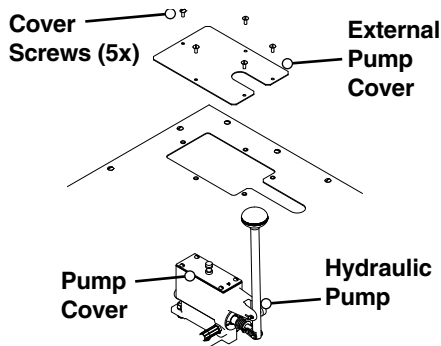

Fig. 3: TS-1/TS-3 Hydraulic Pump Access
3. **TS-1/TS-3:** Remove the five screws that secure the external pump cover to the top (Figure 3 on page 8). Lift the cover off and look for oil leaks. Report any leaks found to Gilson. If none, reinstall the cover and proceed.
1. Remove the five screws that secure the external pump cover to the top, then lift the cover off (Fig. 3).